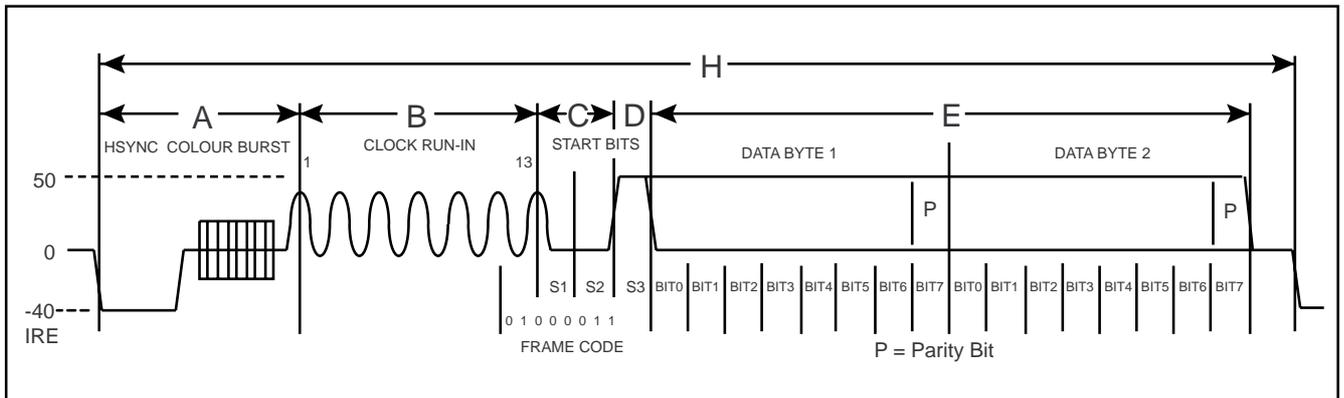

Figure 8 Closed Caption format
Two bytes of data are coded on the line 21 of each field, see figure 8. In the NTSC Closed Caption service, the default state is to code on line 21 of field one only. An additional service can also be provided using line 21 (284) of the second field. The data is coded as NRZ with odd parity, after a clock run-in and framing code. The clock run-in frequency = 0.5034965MHz which is related to the nominal line period, $D = H / 32$.